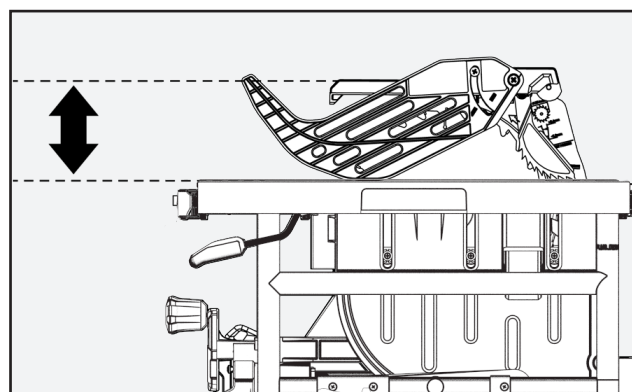

FIGURE 15
2. Rotate the Blade Guard Assembly toward the front of the Saw until the Support Arms **D** of the Blade Guard Assembly are parallel to the Table see Figure 15.